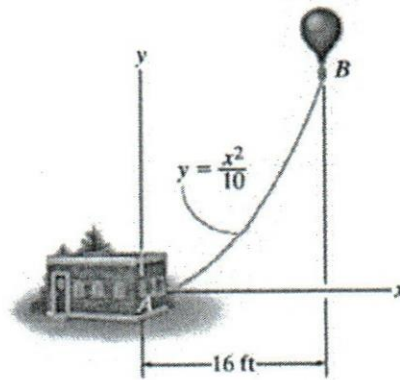

Figure 2
- b) At any instant the horizontal position of the weather balloon in Figure 2 is defined by $x=(8t) \text{ ft}$ where t is in seconds. If the equation of the path is $y = x^2/10$, determine the magnitude and direction of the velocity and the acceleration when $t= 2\text{ s}$. [10 marks]